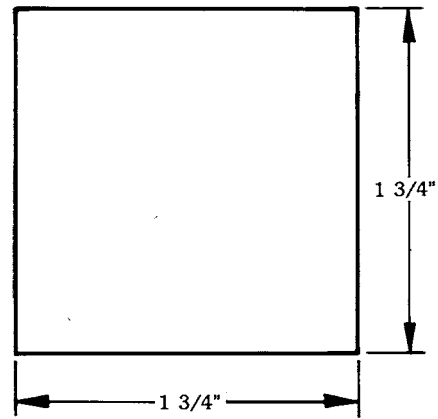

Fig. 1 — Mounting Hole Dimensions
1. Cut a hole in the wall for the terminal board housing. The hole should be 1¾ in. by 1¾ inches. See Fig. 1.